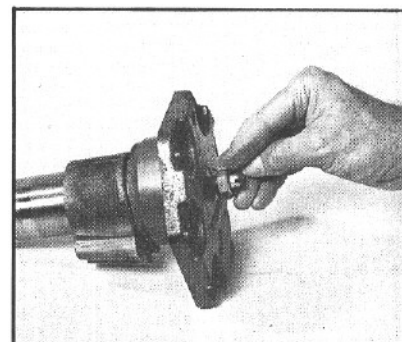

Figure 135
34. Install the sector shaft adjusting screw jam nut (59) onto the sector shaft adjusting screw (51) a few threads (FIG. 135). Final adjustment will be made later.